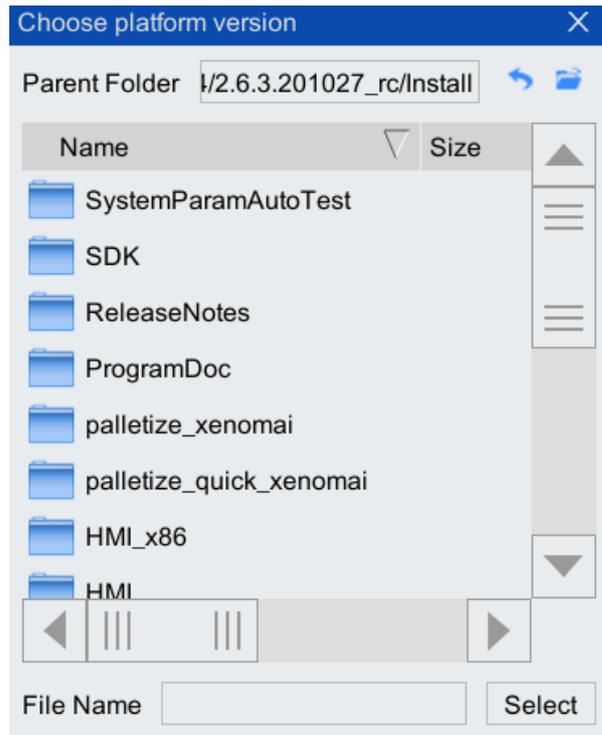
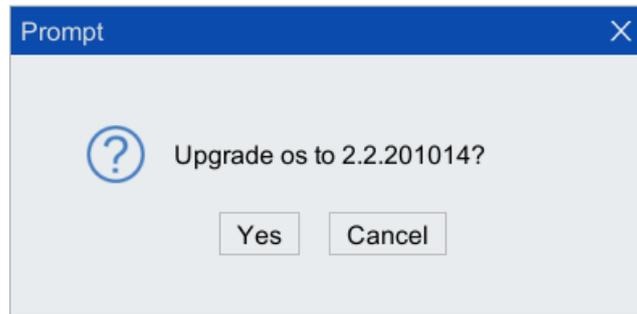

Figure 8-54 "Please select upgrade file"list box
Figure 8-56 "Upgrade os to **?" prompt dialog box
Step2.Switch the path from Figure 8-54 to the path where the platform upgrade file is located, select the platform upgrade file, click the <Select> button, and the "Upgrade os to **?" prompt dialog box shown in Figure 8-56 will pop up, Click the <Yes> button.